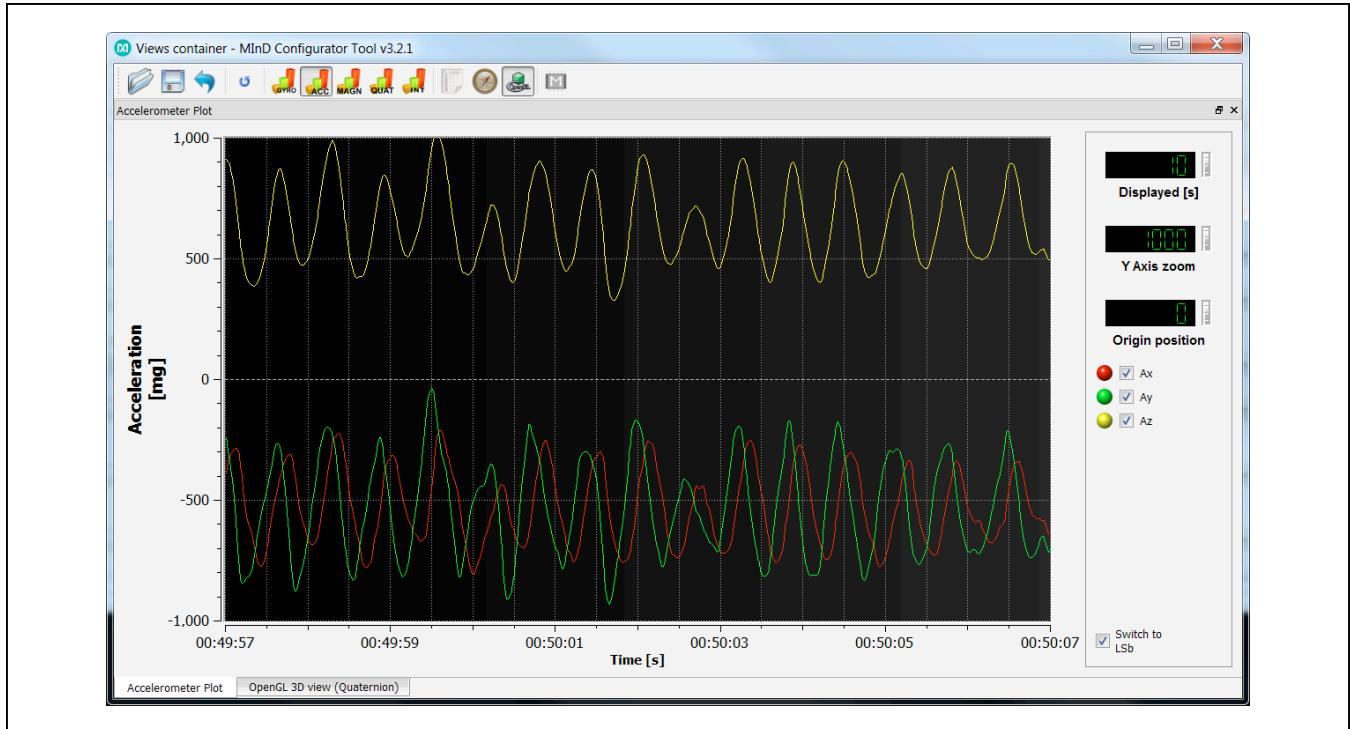

Figure 20. Accelerometer Plot
- **Accelerometer Plot:** This view shows a plot for the accelerometer data (Figure 20).